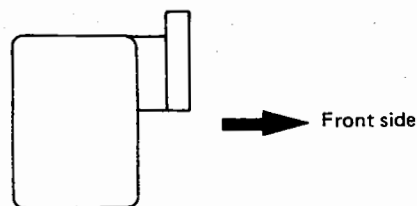

Fig.14.1
1. When installing the upper mounting rubber, pay attention to its installation directions as shown in Fig. 14.1.